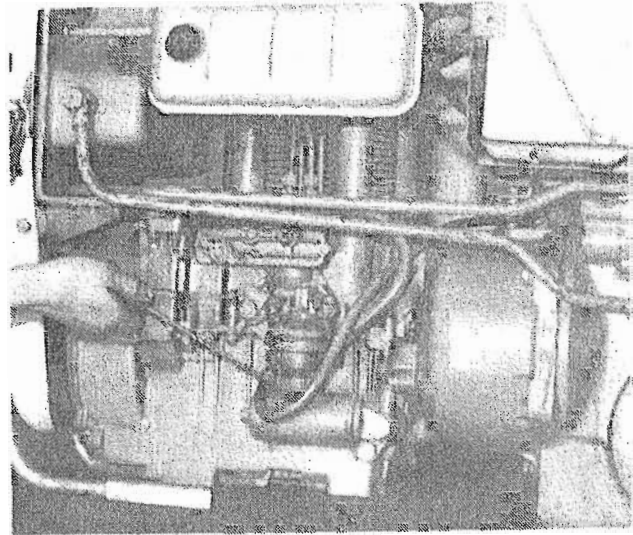

FIG. 3
- (3) Fuel supply line (Fig. 3) and excess fuel return lines from the injectors to the fuel tank.